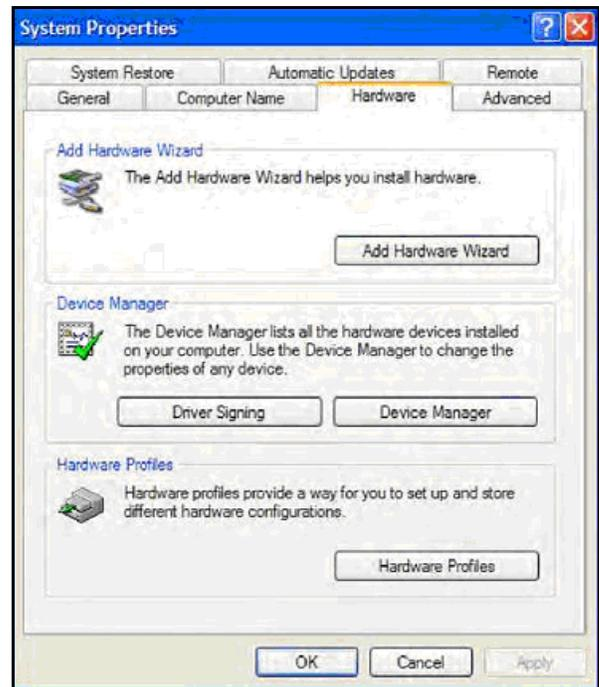
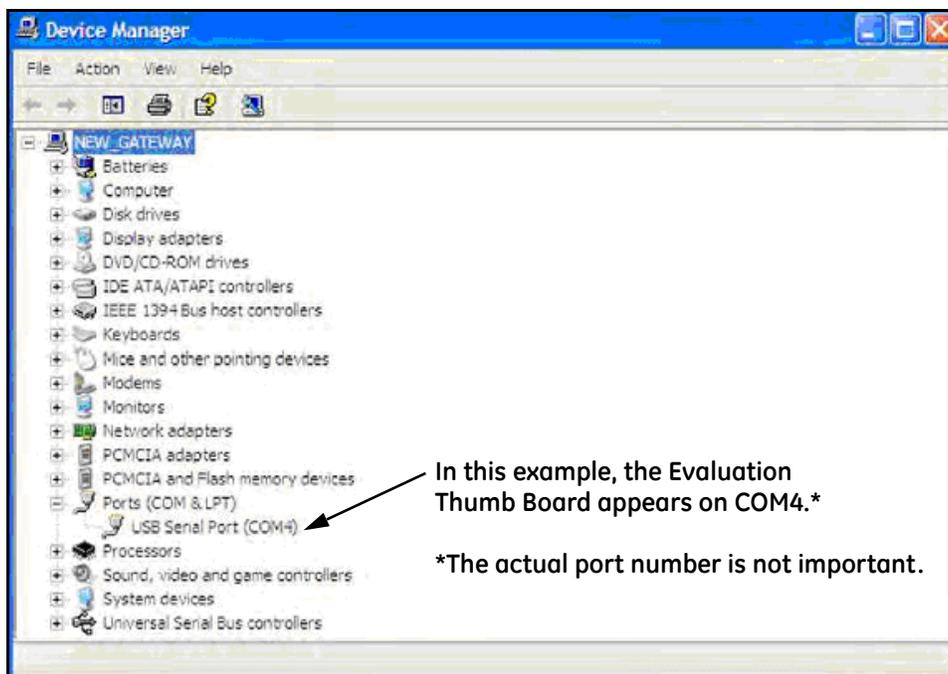

Figure 2: System Properties Screen
Figure 3: USB Port Device Listing
- b. To verify that the new hardware is operating properly, click on **Start>Settings>Control Panel**. Then, double-click the **System** icon to open the dialog box shown in *Figure 2* to the right.
- c. Click on the **Hardware** tab and then on **Device Manager** (see *Figure 2* to the right) to open the dialog box shown in *Figure 3* below.
- d. Expand the **Ports (COM & LPT)** branch of the device listing and verify that there is a device called **USB Serial Port (COMx)** listed. Typically, x will be 4 or 5 (it is not important to remember this number; x=4 in the example shown in *Figure 3* below).